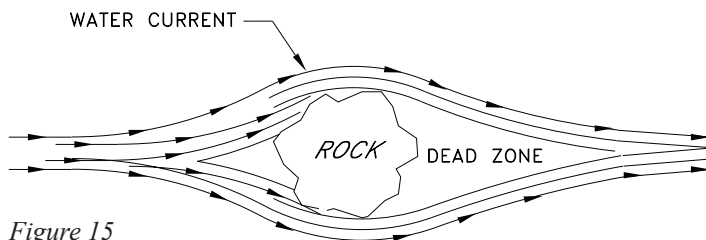

Figure 15
7.2.5 Zones of Silence: Large natural or man-made objects can block acoustical transmission under certain conditions, in much the same way that a rock blocks a fast-moving current of water. Close to the backside of the rock, in this example, the current is absent and the water seems still. A short distance away, the current is flowing again (Figure 15).